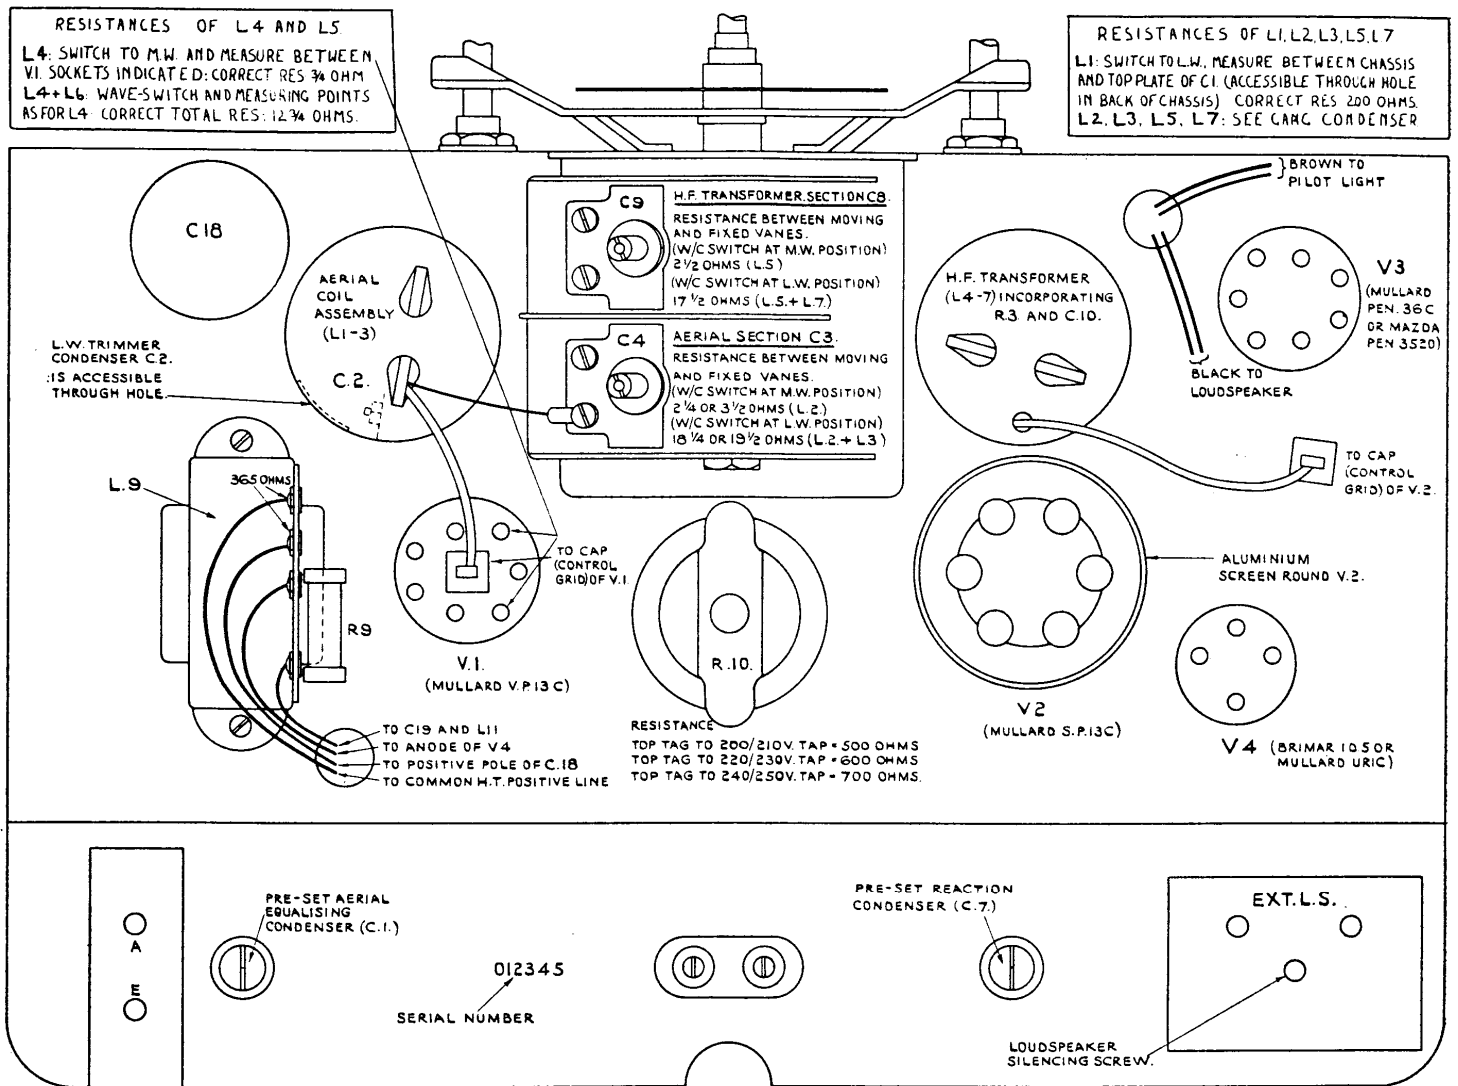

Fig. 1. Top view of chassis. All coil resistances are shown.
A proportion of the aerial capacity will always be transferred to the tuned circuit L2, C3-4 on the M.W. band and L2, L3, C2-4 on the L.W. band. It will be apparent that unless a method is provided of varying this capacity within suitable limits, the circuits mentioned may be thrown out of adjustment with the corresponding circuits C8-9, L5, L7. The desired variation is obtained by means of the pre-set condenser C1 (see Fig. 1) which, once adjusted for a particular aerial, should not be touched. Readjustment will, however, be necessary if the receiver is used on a different aerial.
This is at the back of the receiver (see Fig. 1) and, when unscrewed, breaks the speech coil circuit of the set speaker. The latter should not be silenced in this way, however, unless a moving coil loudspeaker with a speech coil impedance of 2-3 ohms is connected across the "Ext. L.S." sockets. This loudspeaker will not require an output transformer.
5. Adjust the trimmer C9 (see Fig. 1) on the H.F. transformer section of the gang condenser for maximum reading on the output meter.
3. Adjust the long wave trimmer condenser C2 for maximum output, meanwhile "rocking" the tuning condenser slightly. C2 is mounted inside the aerial coil can (see Fig. 1).
If valves light up, check for H.T. between tag 2 of smoothing choke L9 (see Fig. 1) and chassis. No H.T. indicates a defective rectifier valve, defective mains resistance or R9 O.C.
If placing a finger on the top cap of V2 causes a loud "screech," however, showing that the L.F. section of the receiver is in order, it should be possible to make the receiver oscillate by gently screwing in the reaction condenser C7. As the receiver goes into oscillation a "plop" should be heard, while the voltage reading across the .0008 mfd. condenser C21 should increase from 80 to 90 volts (approximately). If the receiver will not oscillate on both wavebands check up the resistance of L5 and L7, measuring from the fixed vanes of C8 (see Fig. 1) and chassis. With wave-change switch in M.W. position the resistance reading should be $2\frac{1}{2}$ ohms and $17\frac{1}{2}$ ohms with switch in L.W. position. If in either position the resistance is negligible, the trimmer C9 is probably S.C. Ascertain whether signals can be received when the aerial is connected through a small condenser (.0001 mfd. or less) to the grid (top cap) of V1. If not, take voltage and current readings of V1. No anode voltage indicates L4, L6, R11 O.C., or C6 S.C. High anode voltage and low anode current point to a defective H.F. valve or no voltage on auxiliary grid, while absence of anode current indicates, unless V1 is faulty, an O.C. VR1 or R1. If the anode voltage is below normal, L2, L3 is O.C. or C5 S.C. In the latter case there will be no voltage on V1 cathode.
To check resistance of L2 and L3 measure between fixed vanes of C3 (see Fig. 1) and chassis. With the wave-change switch at the M.W. position the resistance should be $2\frac{1}{4}$ or $3\frac{1}{2}$ ohms while the resistance with the switch in the L.W. position should be $18\frac{1}{4}$ or $19\frac{1}{2}$ ohms.